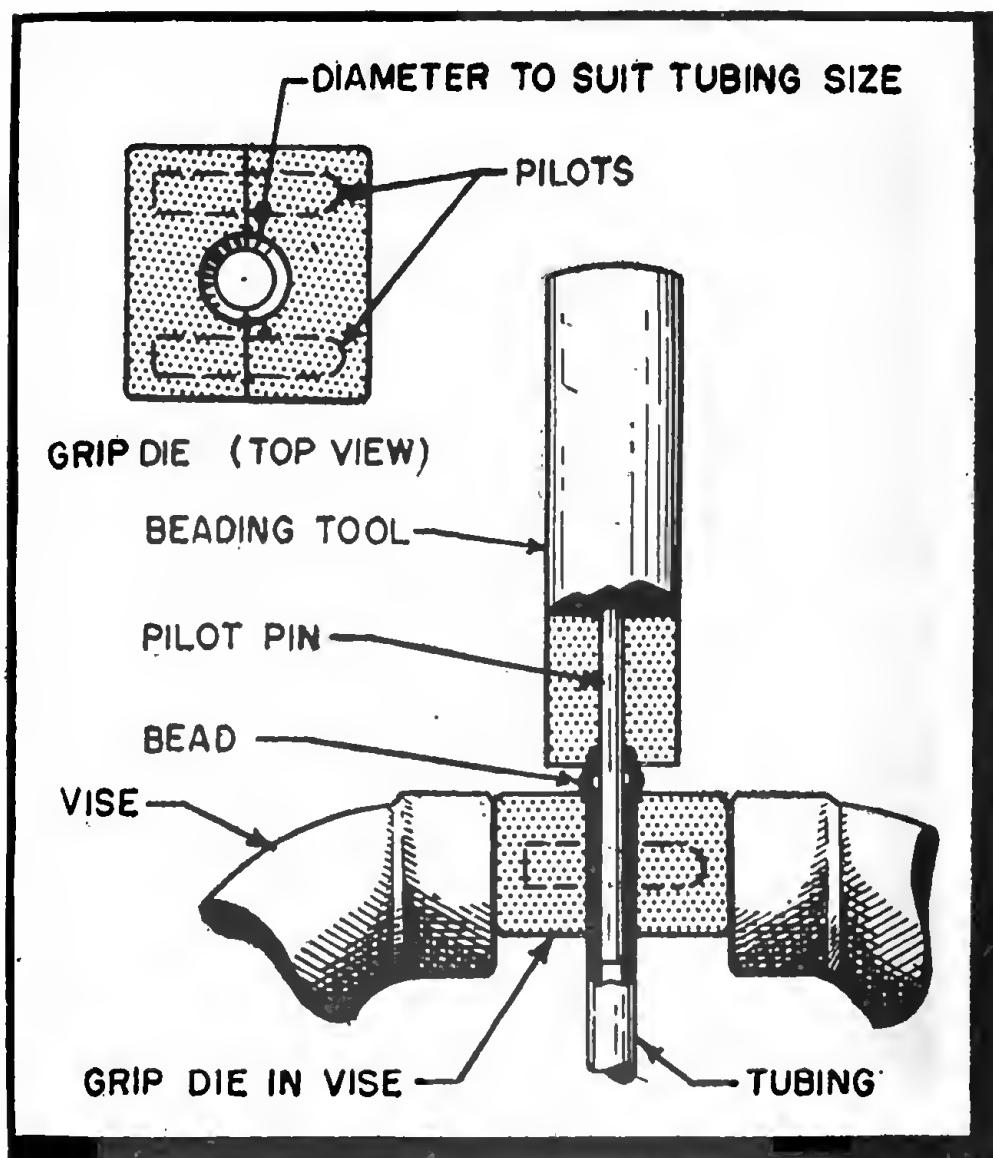

Figure 166. Tools for beading small tubing.
e. TUBE-BEADING TOOLS. Tubing-end hose connections and hose nipples have raised ridges (called beads) near the ends. These beads keep the clamp from slipping off the end of the tubing and thus prevent blow-off of the hose. Beading is usually done with beading tools, two types of which are shown in figures 166 and 167.
(1) The tool set shown in figure 166 is used for beading small tubing. It consists of a set of grip dies and a beading tool. The tubing is placed in the correct grip die and the die is clamped in a vise. (The tubing should extend approximately $1\frac{1}{2}$ diameters above the die.) The pilot pin is then placed in the open end of the tubing and the beading tool is struck lightly with a hammer until the desired bead has been formed.